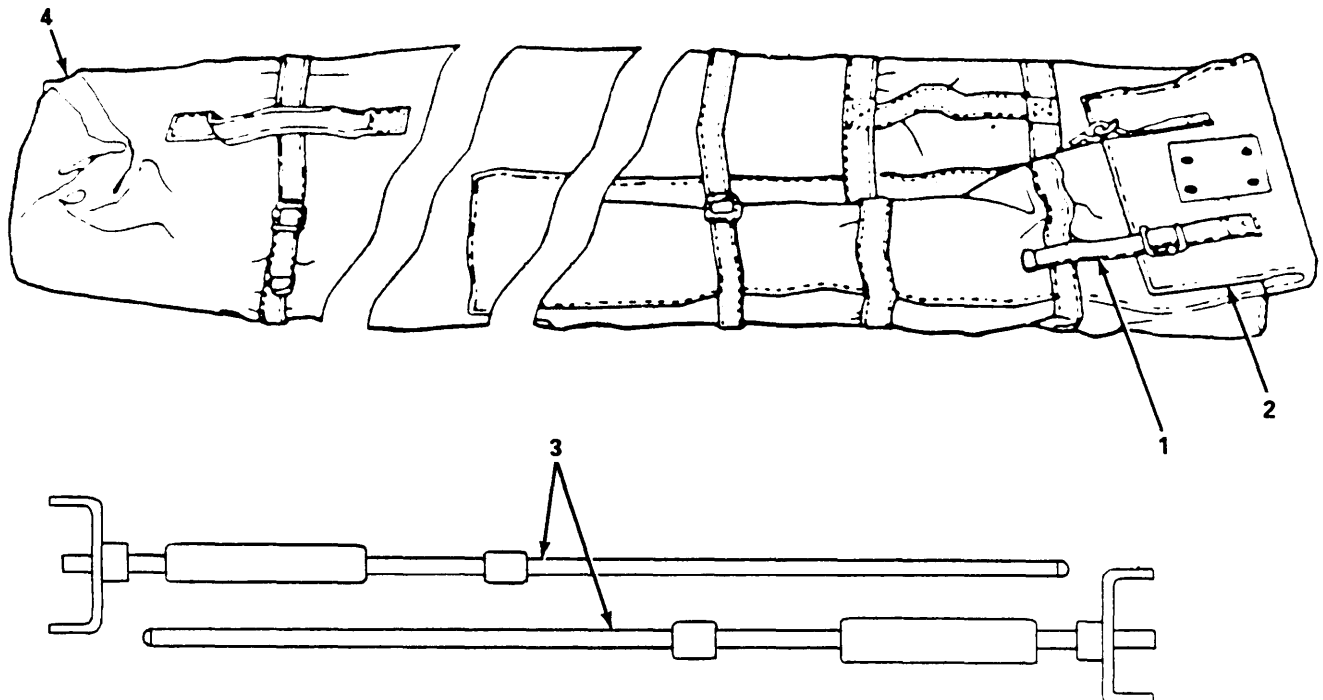

Figure 4-2. Ground Rod, Removal/installation.
a. Removal. (figure 4-2.)
- (1) Unbuckle two straps (1) and open flap (2).
- (2) Remove two ground rods (3) from container (4).